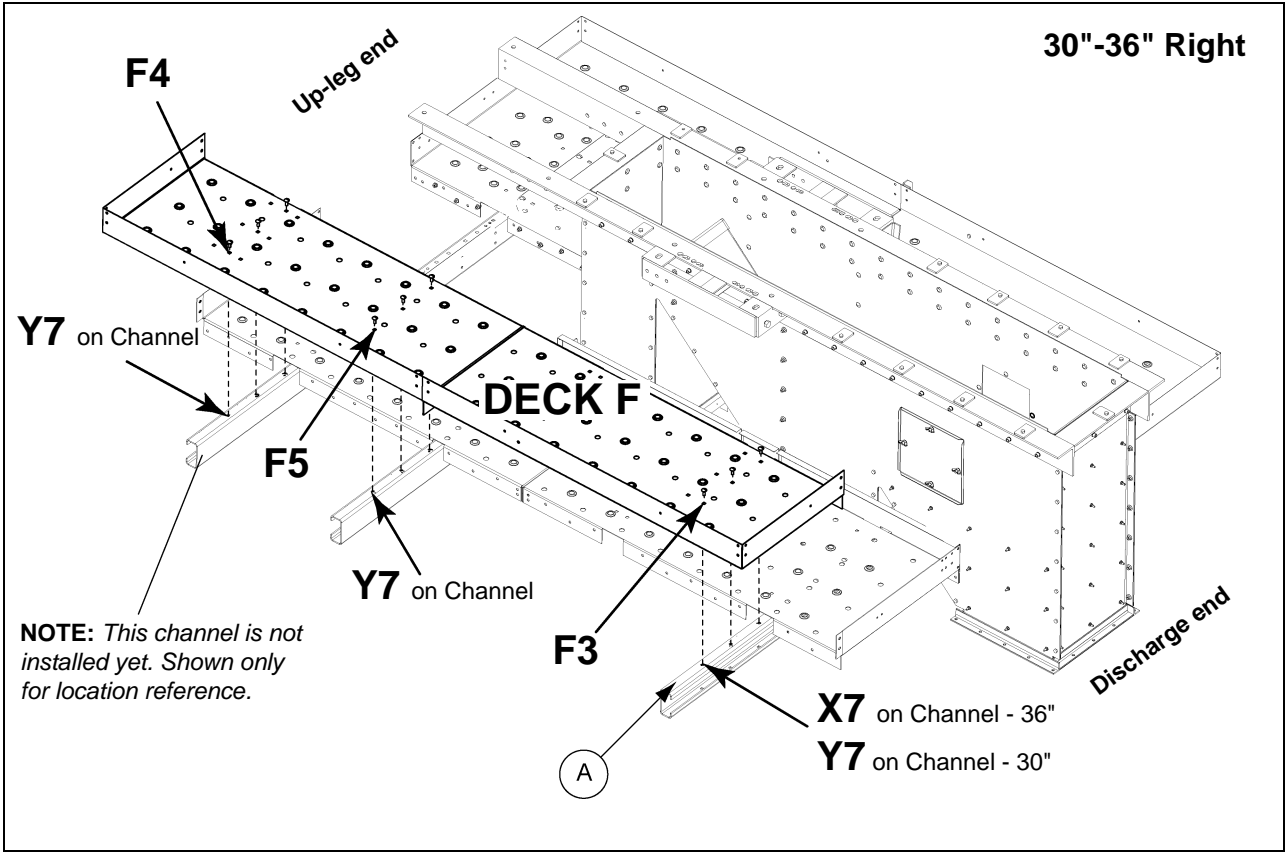

Figure 8L Deck F to Cross Deck Support Channel
- 1. Locate pre-assembled Deck F. This deck consists of two (2) planks.
- 2. Orient Deck F with hole **F3** at the discharge end of the lower head and **F5** at the up-leg end. (See Figure 8L.)
(See Figure 8L on Page 58.)